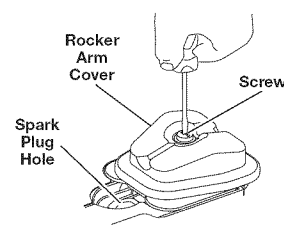

Fig. 21
4. Remove the screw holding the rocker arm cover with the appropriate tool (Fig. 21). Remove the rocker arm cover and gasket.
- The piston is at the top of its travel by looking in the spark plug hole (Fig. 21)
8. Reinstall the rocker arm cover using a new gasket (Fig. 21). Torque the screw to: 20–30 in•lb (2.2–3.4 N•m).